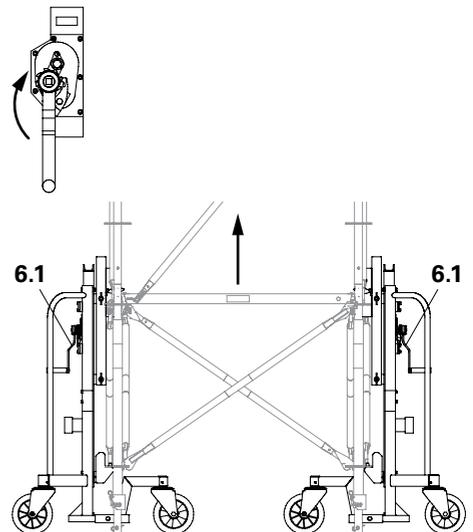

Fig. 23
3. Raise the load by turning the hand crank (6.1) in a clockwise direction. The safety pawls (4.3) are automatically pushed upwards at the rear, fall in a forward direction and thus secure the Ledger against lifting. (Fig. 23)